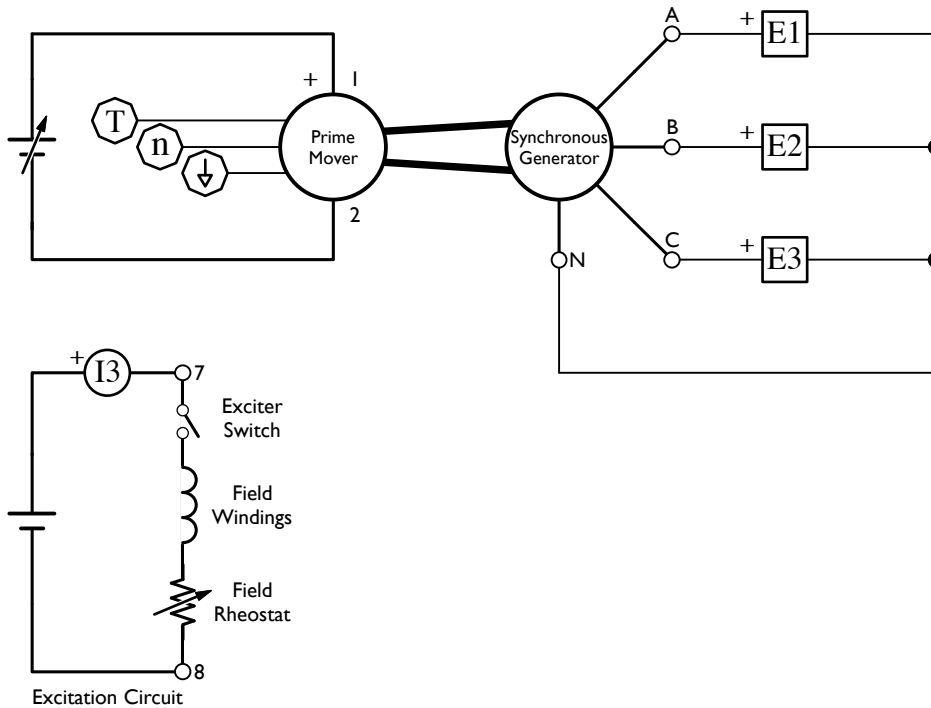

Figure 5.4: Synchronous Generator, No Load, Phase Voltages
6. Connect the equipment as shown in Figure 5.4.